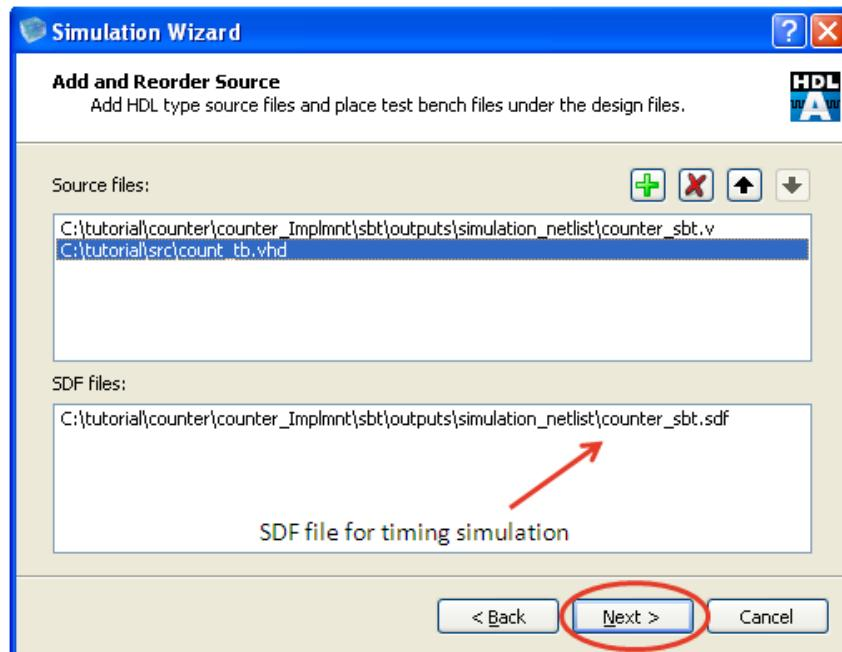

Figure 10-19 : Add Test bench File.
- The simulation wizard automatically adds the post routed netlist “**counter_sbt.v**” in “Source files” panel and the verilog delay format file “**counter_sbt.sdf**” under “SDF files” panel as shown in Figure 10-19. Click on “+” icon to add the “**count_tb.vhd**” test bench to the “Source files” panel. Click on “Next”.